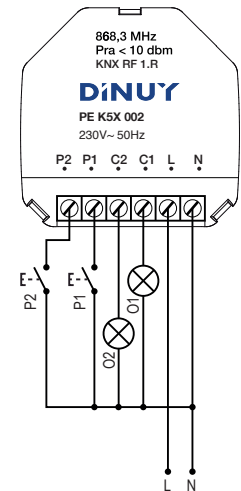

Fig. 2
- Fig. 2: Control of 2 independent loads
- Fig. 2: Control de dos cargas independientes